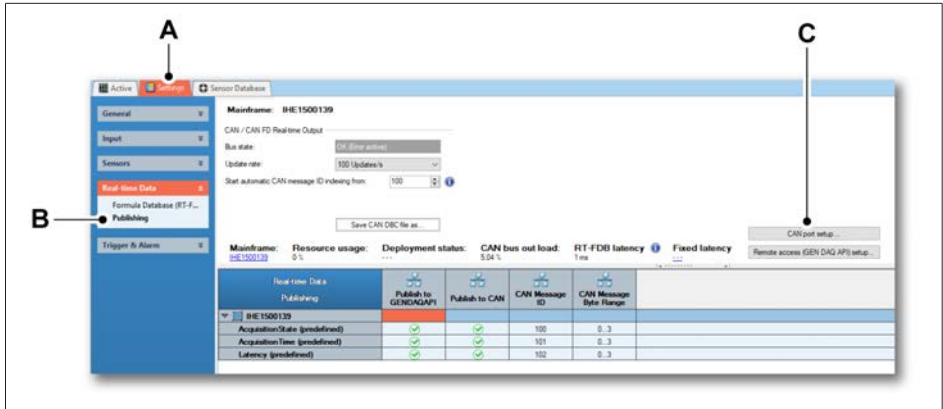

Fig. 12.23 CAN bus settings
- The correct **CAN bus settings** have to be used. To edit the CAN bus settings and set up the required settings open the **Real-time Data** panel and edit the **Publishing** values as shown in Fig. 12.23.